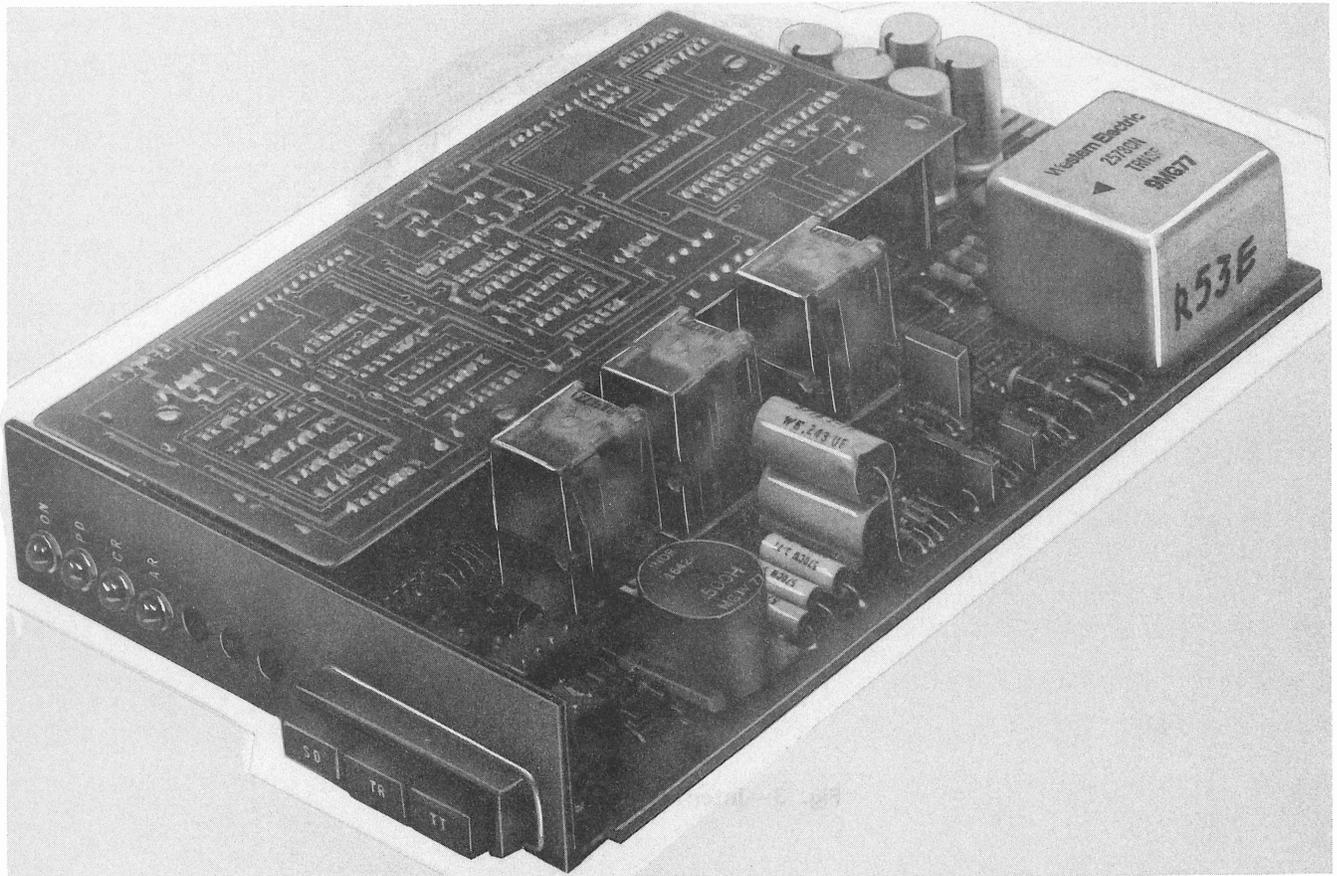

Fig. 2—DAS 801CR-L1
- Data auxiliary set 801CR-L1: Printed circuit pack (Fig. 2).